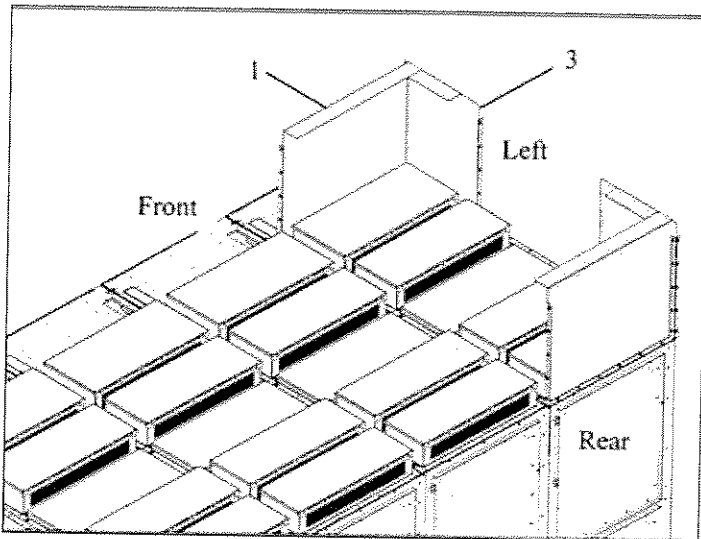

Figure 13. Detail of the Left Front Corner of the Arc Exhaust Wall.
1. Repeat Step 12-A but substitute the narrow vertical panel (2) with (3) as shown in Figure 13.